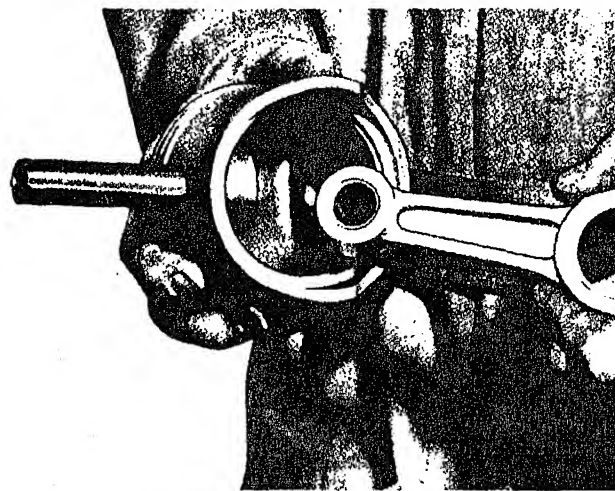

Fig. 12-2-30. Install piston pin
7. Heat piston in water to expand piston pin bore and install piston pin through piston and connecting rod. Fig. 12-2-30. Secure pin with snap rings.